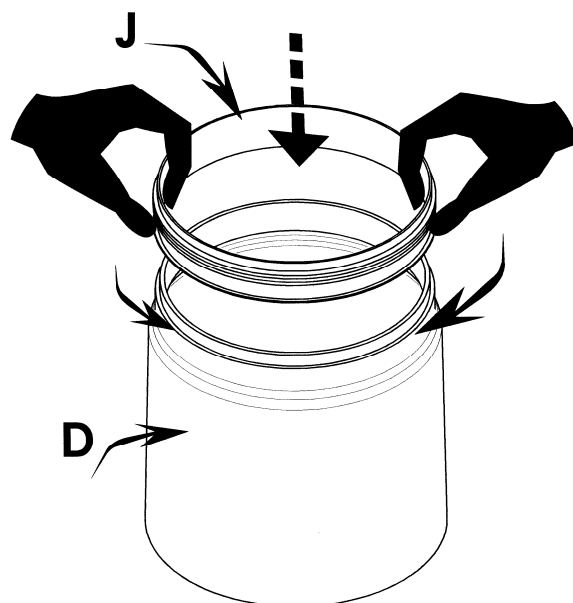

Figure 17
16°.-When you have finished, put all the parts back again. Once the tank (D) seal (J) is back in place, moisten it on the outside so that it slides more easily (Fig.17). Please note: The inside of the seal in contact with the tank must be perfectly dry, otherwise you will not be able fit the tank into its housing.